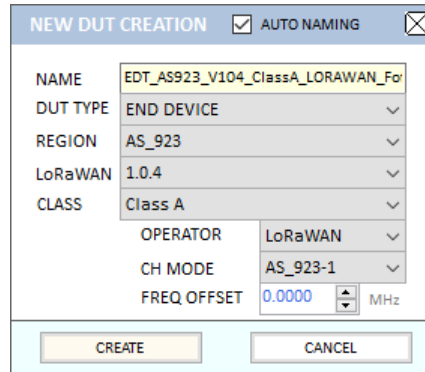

Fig 2.8 Creating a new DUT
You have to select DUT parameters such as DUT type, region, LoRaWAN® version, Class, Operator(KR, CN), channel mode(AS), channel plan(CN) and Frequency offset(AS region) shown in the figure 2.8 before you create a DUT file. Once created, you cannot modify the name of the DUT, and the parameters mentioned above. If you want to modify any of them, you must create new one. The AUTO NAMING will help you quickly name it.